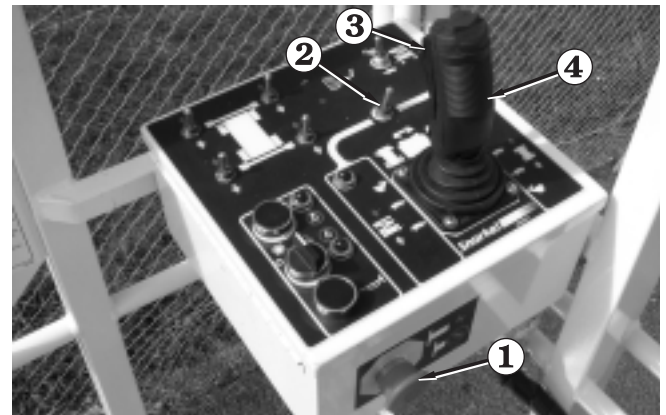

Figure 9.3
2. Set the **Selector** switch **2** (see Figure 9.3) to the platform function (left).
3. Squeeze the **Safety Control** **3** and pull the **Joystick Controller** **4** (see Figure 9.3) back. The platform should lower. If it does not lower, call for help from someone on the ground.